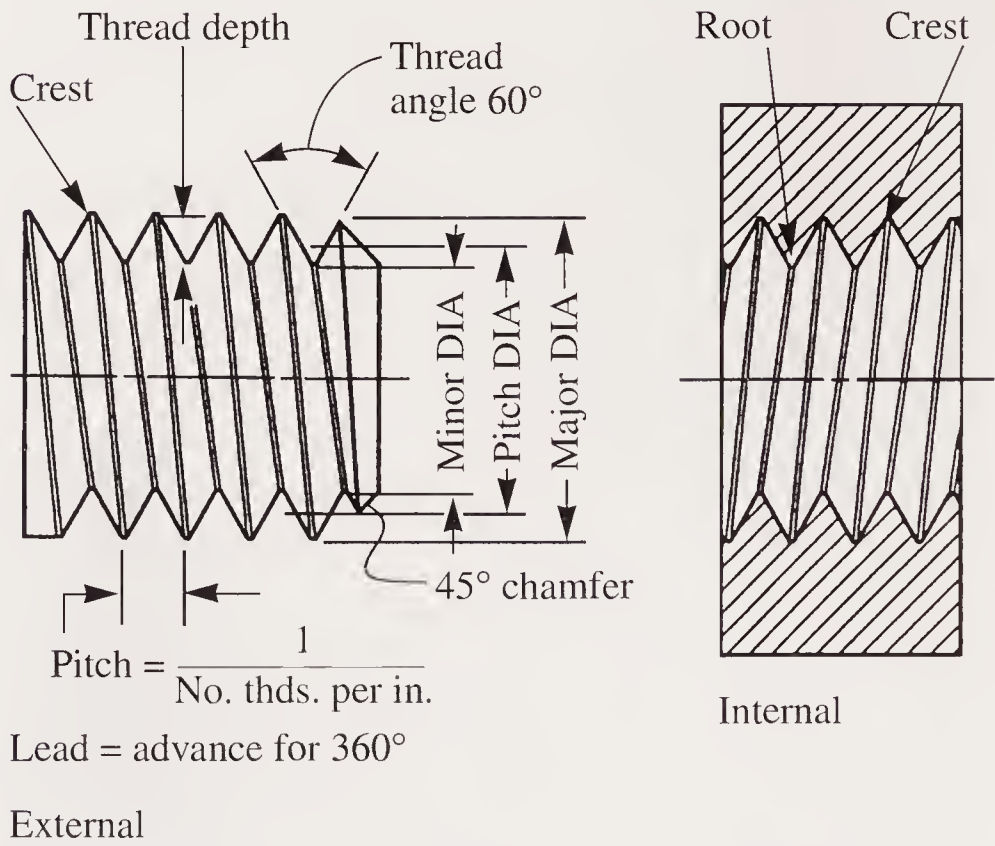

Figure 3-17. Thread terminology for external and internal threads.
Figure 3-17 illustrates various parts of a thread. There are several types, or series, of threads of commercial importance. Only three are of significance for the purpose of this text. The first type is the coarse-thread series designated *Unified National Coarse (UNC)* and National Coarse (NC). These are for general use where they are not subjected to vibration.